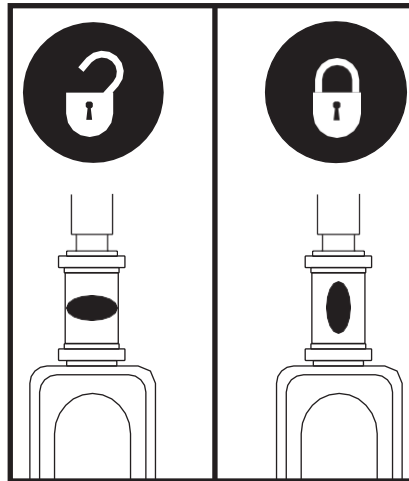

Figure 32. Tiller Lock Knob
1. Remove the key from the key switch and then lock the tiller in the straight-ahead position by pushing the tiller lock knob in and turning it clockwise 90°. **See figure 32.** The front wheel must face forward in order to lock the tiller.
6. Unlock the tiller by turning the tiller lock knob 90° counterclockwise. **See figure 32.**